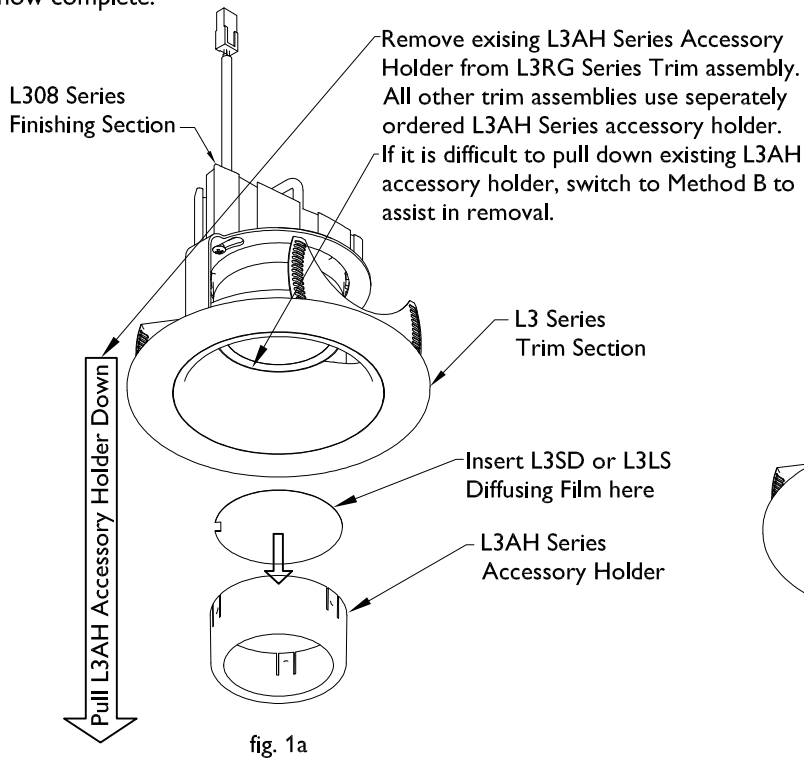

fig. 1a
2. Make sure Trim is oriented in vertical position before proceeding. If working with L3RG Series Trim assembly, Accessory Holder comes pre-installed. Remove Accessory Holder as detailed below in (fig. 1a) to proceed. All other trims, Accessory Holder is sold separately.
3. Install Diffusing Film as detailed below in (fig. 1a) if desired. Make sure Diffusing Film has the smooth side facing downwards. Groove in L3LS is aligned perpendicular to beam spread (fig. 2a & fig. 2c).